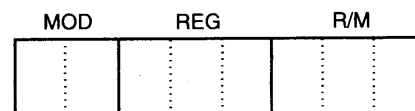

FIGURE 4-3 Byte 2 of many machine language instructions, showing the position of the MOD, REG, and R/M fields.
If the direction bit (D) = 1, data flow *to* the register REG field from the R/M field located in the second byte of an instruction. If the D-bit = 0 in the opcode, data flow *to* the R/M field *from* the REG field. If the W-bit = 1, the data size is a *word* or *doubleword*; if the W-bit = 0, the data size is always a *byte*. The W-bit appears in most instructions, while the D-bit appears mainly with the MOV and some other instructions. Refer to Figure 4-3 for the binary bit pattern of the second opcode byte (reg-mod-r/m) of many instructions. Figure 4-3 shows the location of the MOD (mode), REG (register), and R/M (register/memory) fields.